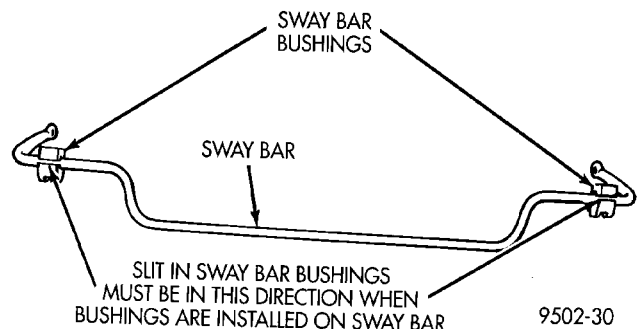

Fig. 35 Correct Stabilizer Bushing Installation
- (1) If stabilizer bar to frame rail bushings require replacement at time of inspection, install new bushings before installing stabilizer bar. Bushings are replaced by opening slit on bushings and peeling them off stabilizer bar. Install new bushings on stabilizer bar, by spreading bushing at slit and forcing them on stabilizer bar. **Bushings must be installed on stabilizer bar with slit in bushing facing rear of vehicle when stabilizer bar is installed (Fig. 35).**